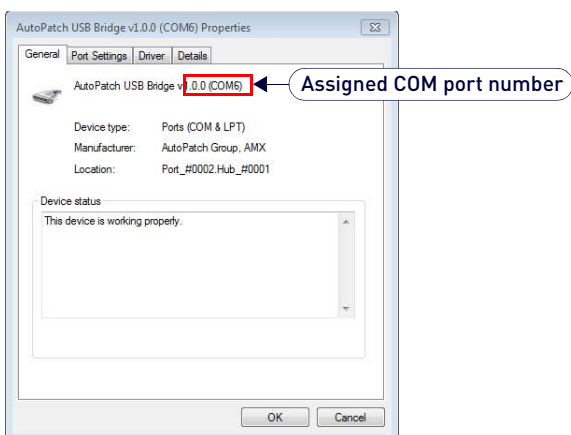

FIG. 175 AutoPatch USB Bridge Properties dialog (General tab)
9. In the *AutoPatch USB Bridge Properties* dialog, select the **General** tab (FIG. 175):